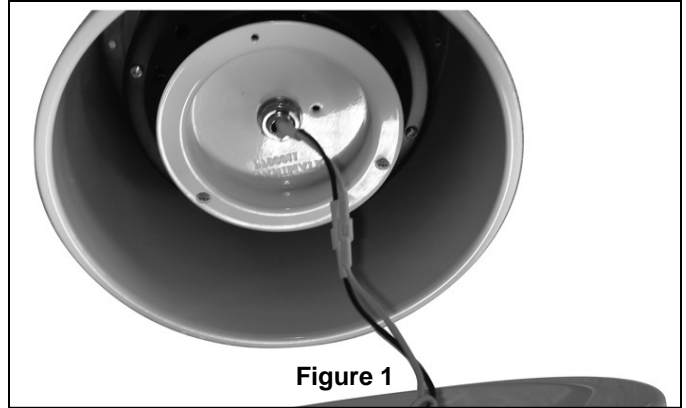

Figure 1
1. Securely attach plugs from motor to sockets on Downlight Socket Plate Assembly (Figure 1)
1. Operating & Using Remote Transmitter (Figure 1):